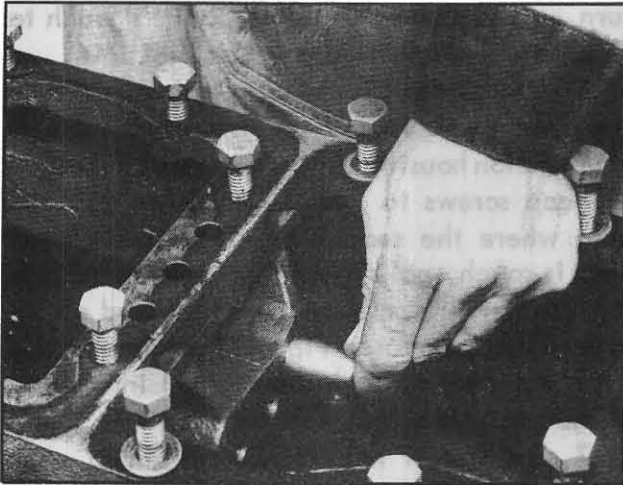

Fig. 247
9. Coat the reverse shifter rail oil seal with vaseline and carefully insert the protective cap, SDT-105 through the oil seal from the front of the housing, as shown in Fig. 247. Slip the reverse shifter rail, see